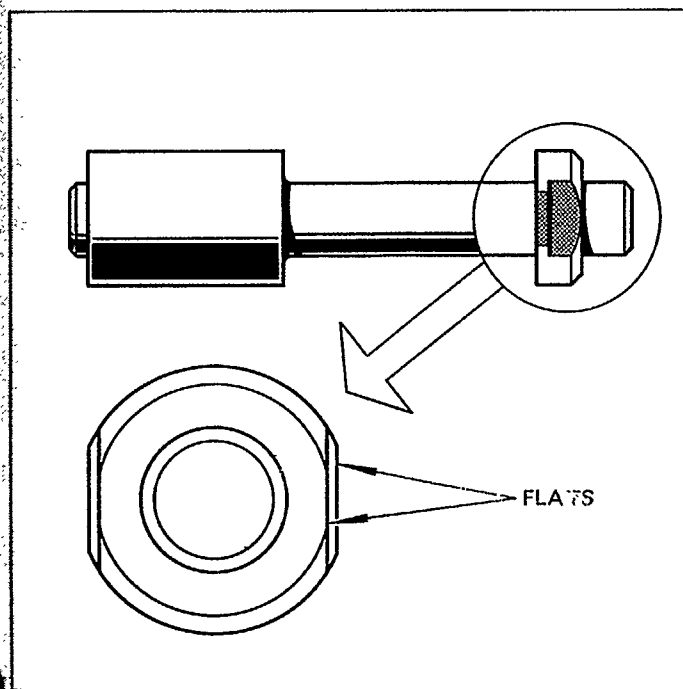

Figure 40A
7. Check the relief valve for score marks and be sure it is free to move within the bore; the valve should have two flats on each side at the location shown in Figure 40A.